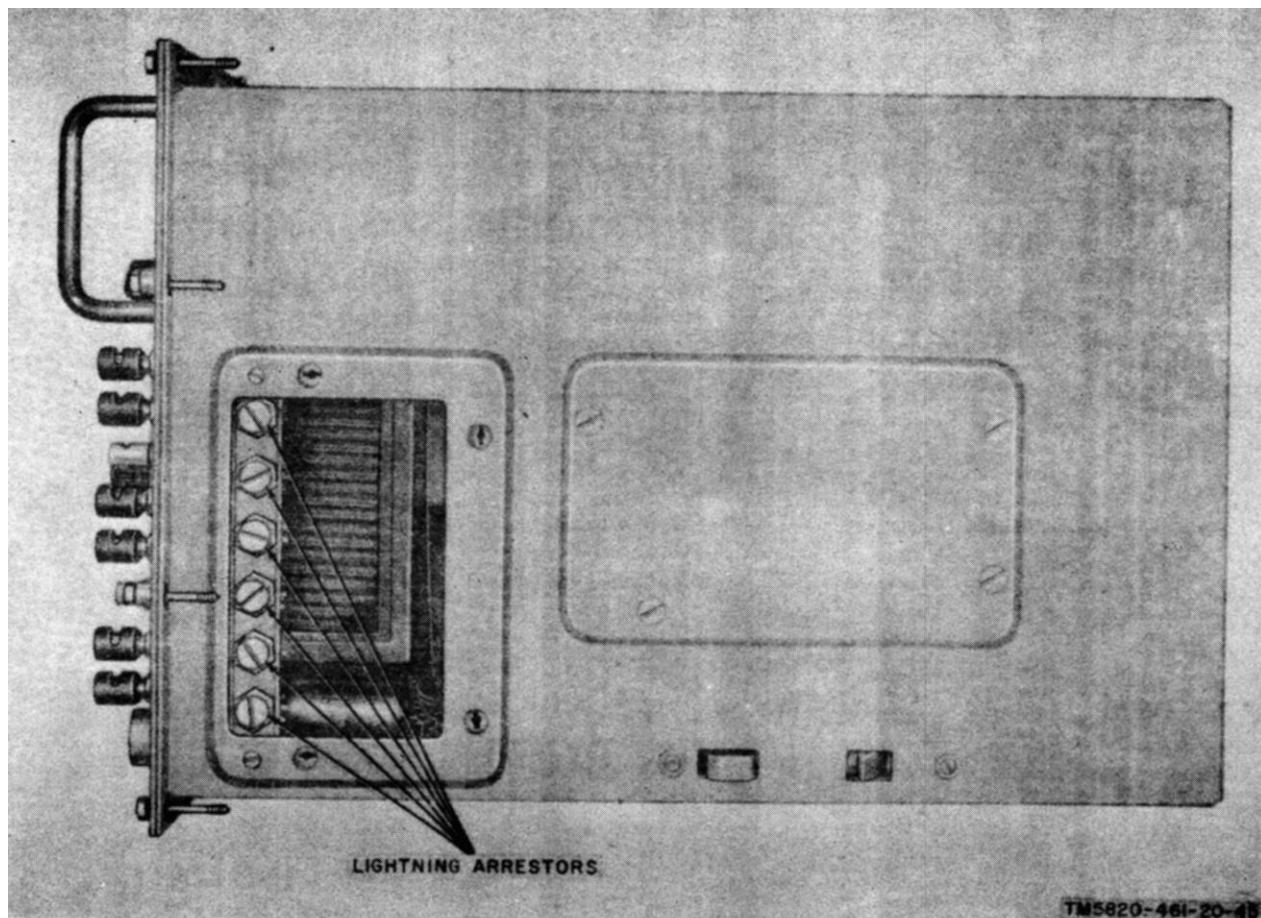

Figure 5-13. R-1148(P)/GRC or R-1331(*)/P)/GRC,
Replacement of tube V1, V2, or V3 in the amplifier-oscillator, replacement of the amplifier-oscillator, tube current regulator assembly 2A6, or tube V4 in PP-2054(*)/GRC will require adjustment of regulator resistors R14, R15, and R16. Refer to paragraph 5-13b for the procedures. Replacement procedure for plug-in assemblies is given in a below. Receiver lightning arresters protecting the fdm cable circuits are located at the input to baseband assembly 3A3 in the receiver (fig. 5-13). Procedures for their replacement are given in b below.
- (1) Remove any interconnecting cables.
- (2) Loosen the mounting hardware.
- (3) Grasp the assembly handles and pull the assembly straight up from the chassis.
- (4) Insert the new assembly. Check to see that the assembly is seated evenly on the chassis.
- (5) Tighten the mounting hardware.
- (6) Replace all interconnecting cables. Be sure that the cables have been connected to the proper receptacle.
- b. *Replacement of Lightning Arresters* (fig. 5-13).
(1) Loosen the attaching screws on the front of the receiver and slide the chassis about 6 inches out of the component case.
(2) Remove the front access plate on the light side of the receiver chassis and inspect the interior wiring for charred insulation, broken connections, etc. If damage is extensive, higher category of maintenance is required.
- (3) Unscrew the lightning arresters and remove them.